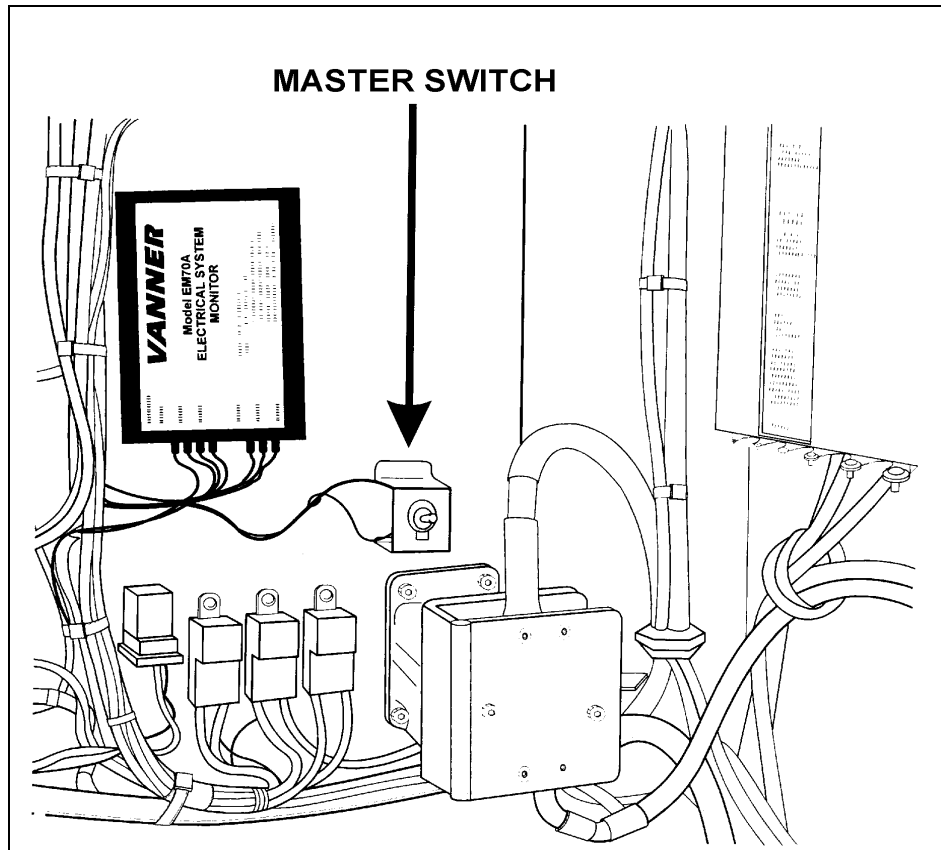

figure 2 : battery master switch
2. Set the battery master switch to the OFF position (figure 2).
10. Set the battery master switch to the ON position (figure 2).